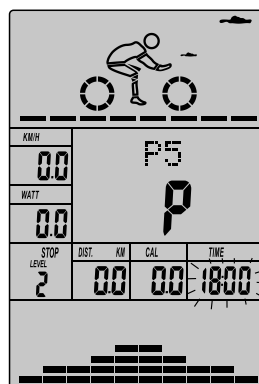

Fig 26
- The time display will flash, and then press (or rotate) button UP/DOWN to set up your desired time. Press ENTER to confirm the value. (Fig 26)